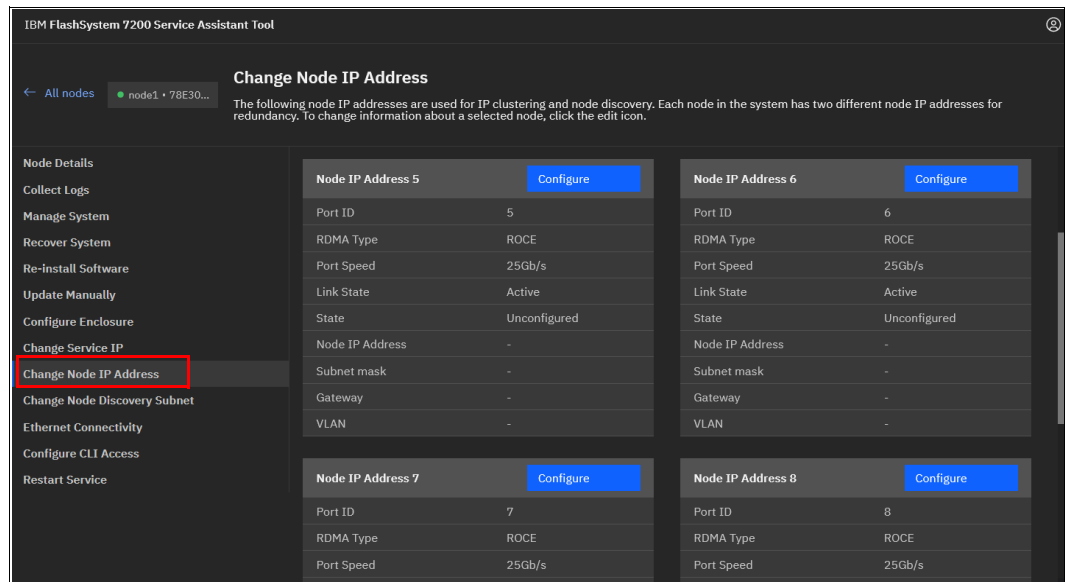

Figure 3-34 Node IP address setup for Remote Direct Memory Access clustering
1. Connect to a Service Assistant of a node by browsing to `https://<node_service_IP>/service`. Then, select a node and click **Change Node IP** (see Figure 3-34 on page 158).